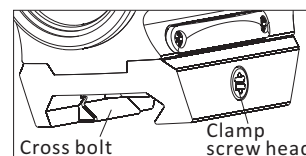

Fig 3
2. First insert the appropriate Torx wrench (included) into the clamp screw head, then rotate to loosen cross bolt then slide the sight into the weapon rail to the appropriate position, and finally tighten the clamp screw. (Fig3)